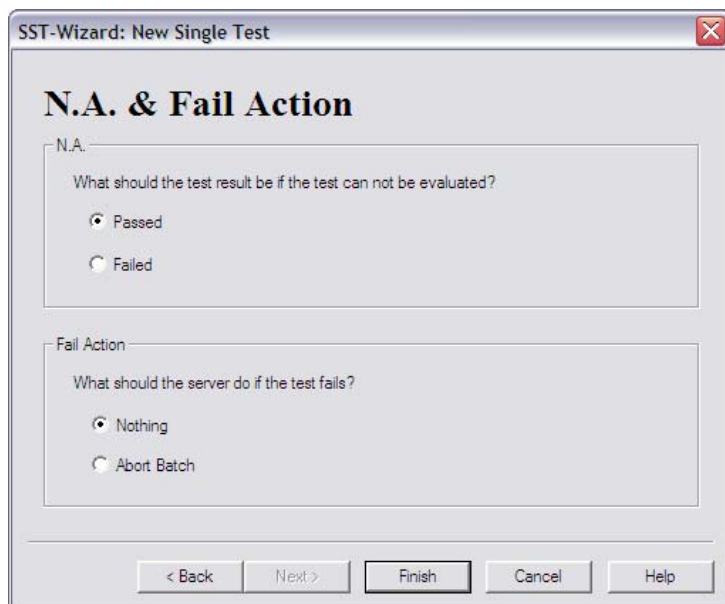

FIGURE 3-21: SST properties **N.A. & Fail Action**.
5. In **N.A. & Fail Action** parameters can be set to define an action if the SST fails (FIGURE 3-21). The fail action is not applicable for Automated Method Scouting because the SST is generated after the batch has run. In the case of peak resolution, if the test cannot be evaluated, it is recommended to set the **N.A.** (Not Available) value to **Passed**. This is to avoid a failed SST in the case of the last or first compound whereby the resolution cannot be determined to the next or previous compound.